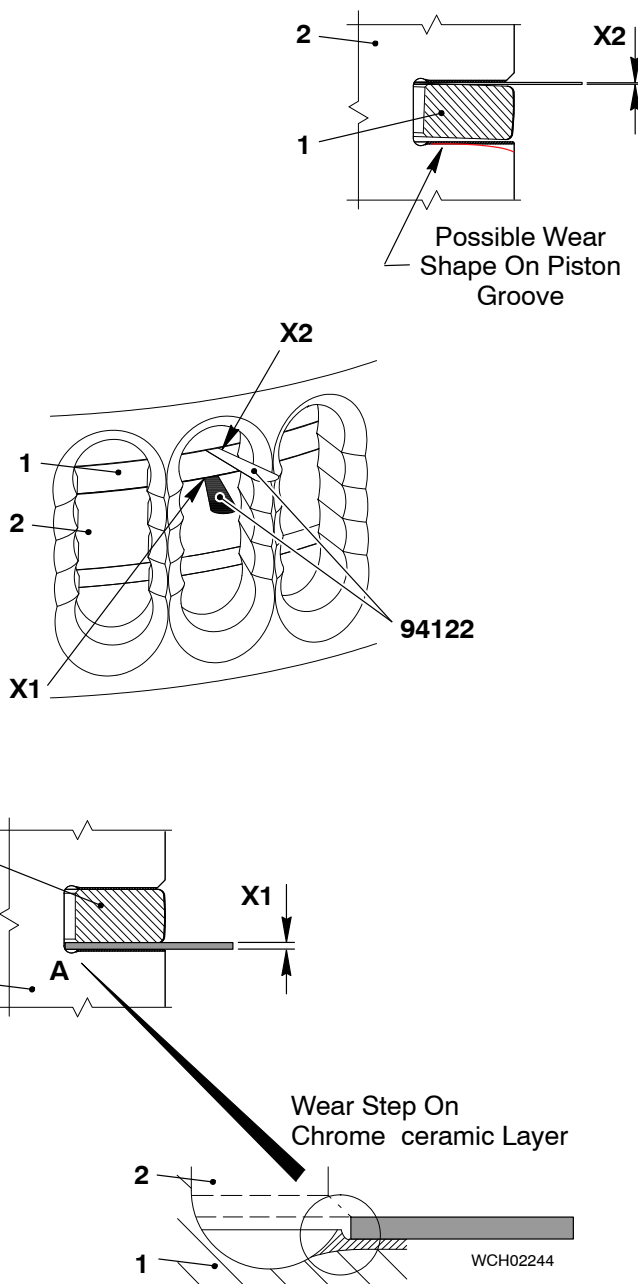

Fig. 3
- 1) Operate the turning gear to move the piston (2, Fig. 3) down.